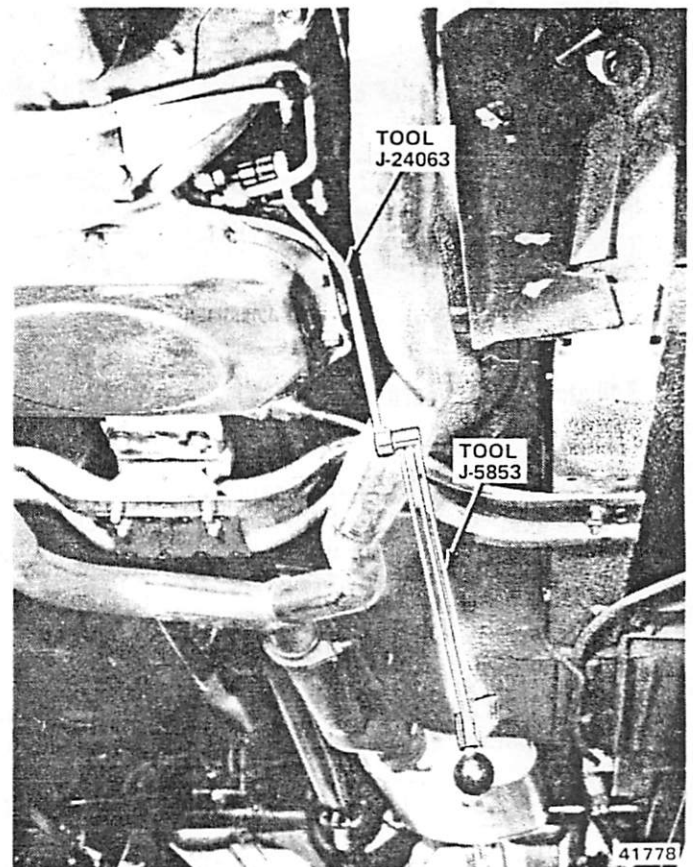

Fig. 2C-19 Front Band Adjustment
- (4) Tighten adjusting screw to 36 inch-pounds (4 N•m) torque using Torque Wrench J-5853, Adapter Tool J-24063 and 5/16 square socket (fig. 2C-19).
- (5) Back off adjusting screw 2-1/2 turns.
- (6) Tighten adjuster screw locknut to 35 foot-pounds (47 N•m) torque. Do not allow adjuster screw to rotate when tightening locknut.
- (7) Lower vehicle.